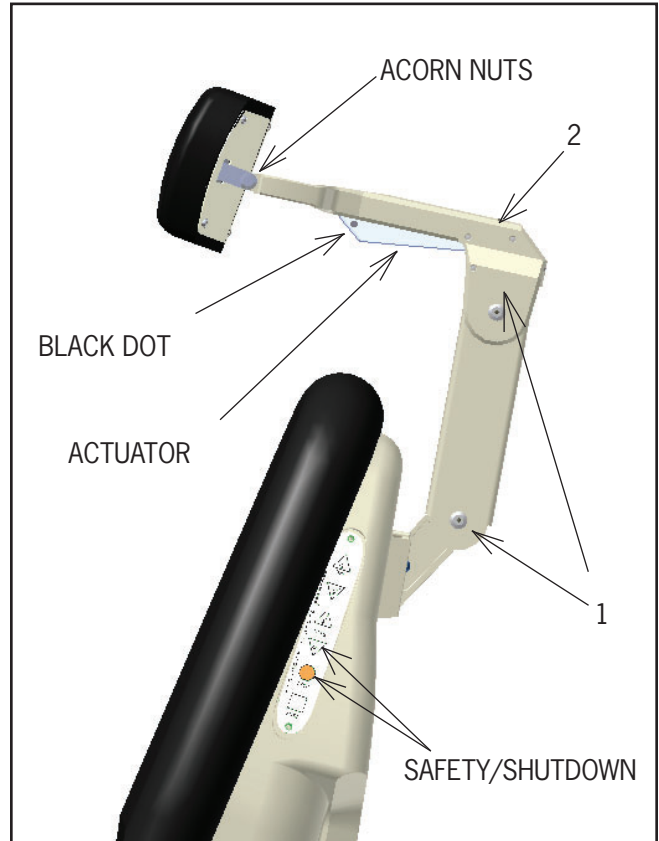

FIGURE 4
3.9.2.1. The No. 26 headrest is designed so it can be operated with just one hand. To unlock, squeeze the clear plastic actuator into lock housing. This will allow both pivots of the articulating arm to rotate so the headrest can be moved to a new desired position. Once in the new position, release the actuator. Make sure the actuator expands to its original position fully exposing black dot on handle to insure a positive lock. The headrest pad is free to rotate at all times. (See Figure 4).
3.9.3.1. There are three adjustments provided on the No. 26 headrest. The first is the tension on the pad rotation. By tightening the two hex acorn nuts on the pad pivots with a 3/8" open end wrench, the tension will be increased. To adjust the drag on the pivots of the articulating arm, loosen the set screw in the center of the pivot with (Figure 4, item 1) a 3/32" hexagon key wrench. Next, tighten the pivot screw on the other side of the pivot, with a 1/8" hexagon key wrench. Now, retighten the set screw to retain the pivot screw at the new adjustment. Either pivot may be adjusted.
3.9.3.2. The third adjustment is for proper clearance of the block dot to indicate that the headrest is properly locked. If the dot does not fully clear the lock housing when the headrest is lock securely, turn the set screw located at the top of the lock housing (Figure 4, item 2) counterclockwise until the dot on the actuator is fully exposed.